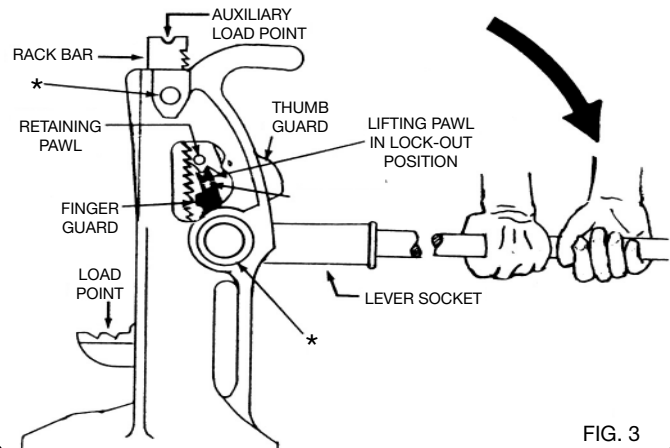

FIG. 3
4. Lubricate periodically at points marked with an (*) asterisk (see Fig. 3 on page 2) with a good grade of SAE 20 wt. oil – **Avoid lubrication of the tooth surface or pawls and rack bar.**
5. Remove jack from service and **immediately replace any parts which appear worn, bent, cracked, rusted or otherwise damaged.** Replacement parts may be obtained from an Enerpac Authorized Service Center (contact Enerpac for referral). Repaired jack should be tested to sustain a 15 ton load (applied at the load point as shown in Fig. 3, page 2). The jack should also be checked in operation to extend full travel, and release per quick trip instructions on page 2.